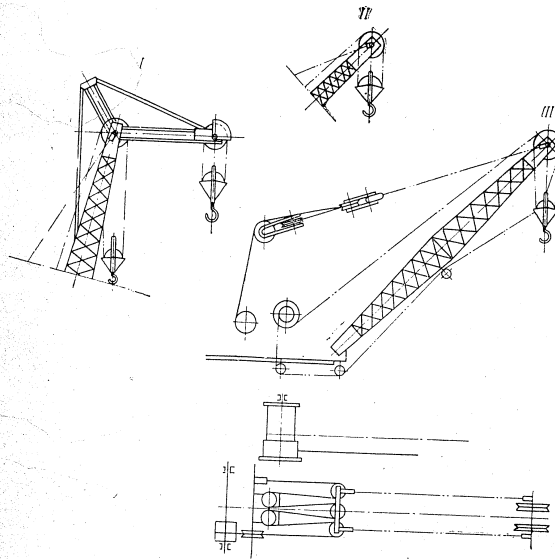

Fig. 10. Cable Reaving for Crane Operation:
4. Reeve the cables in conformance with the reeving diagram (see Fig. 10).
The holding and boom-hoist cables are also reaved as for dragline attachments with 10-m boom. The holding rope for a 18-m boom is of a length of 14 m (see Fig. 10).